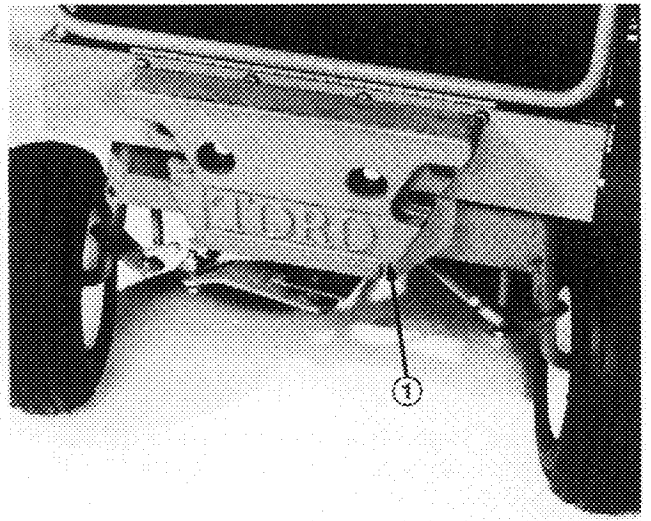

Figure 6
2. Mount weight to frame with (2) 1/2–13 x 1-1/2" (39 mm) bolts and lock washers (Fig. 6).